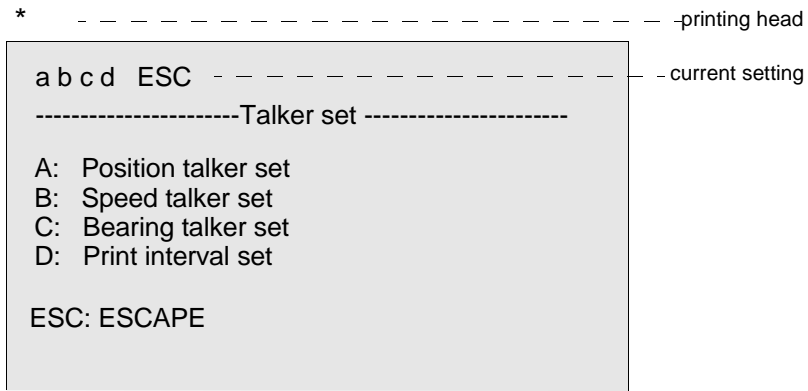

Figure 23. Main Menu Printout
61. After making the selection, press the ENT key (figure 3, item 4) (figure 23). Each Talker Set menu is printed again.